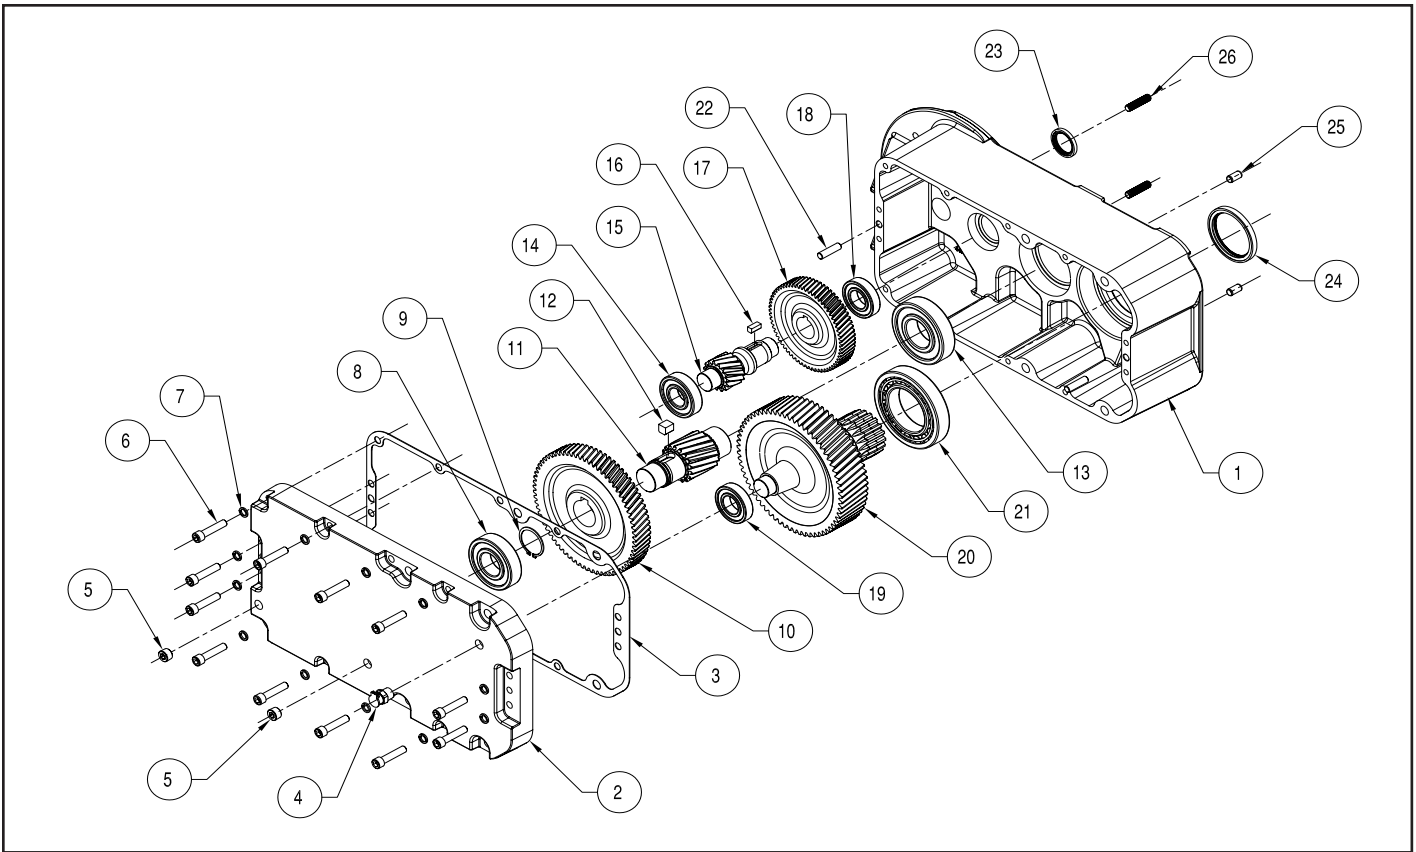

Figure 9-2. Hoist Gearing
"B" Frame: Hoist Gearing for Figure 9-2.
**"C" Frame: Hoist Gearing for Figure 9-2.**
**"D" Frame: Hoist Gearing for Figure 9-2.**